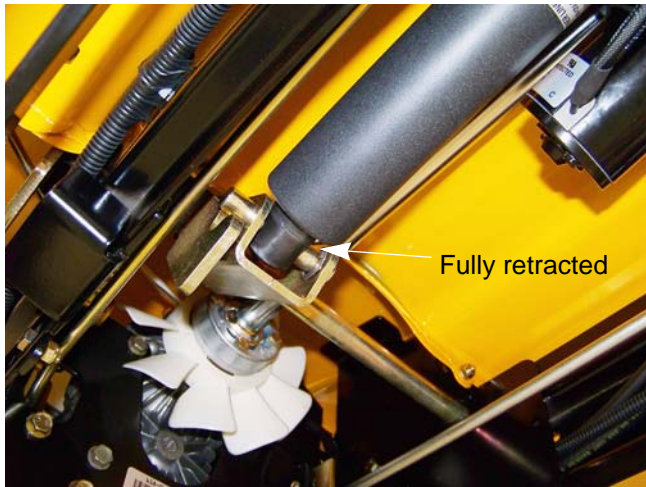

Figure 8.37
3. Operate the deck lift switch until the deck lift actuator is fully retracted. See Figure 8.37.